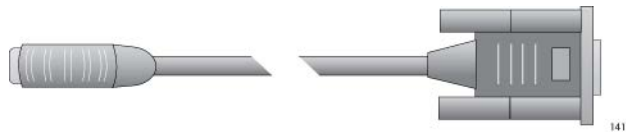

Figure 63. Management Cable Included with Switch
- ❑ Local management sessions require a management cable. If your computer has an RS-232 port, you may use the management cable supplied with the product, shown in Figure 63. The cable has a RJ-45 connector that connects to the Console port on the switch, and a female DB-9 (D-sub 9-pin) connector that connects to your computer.